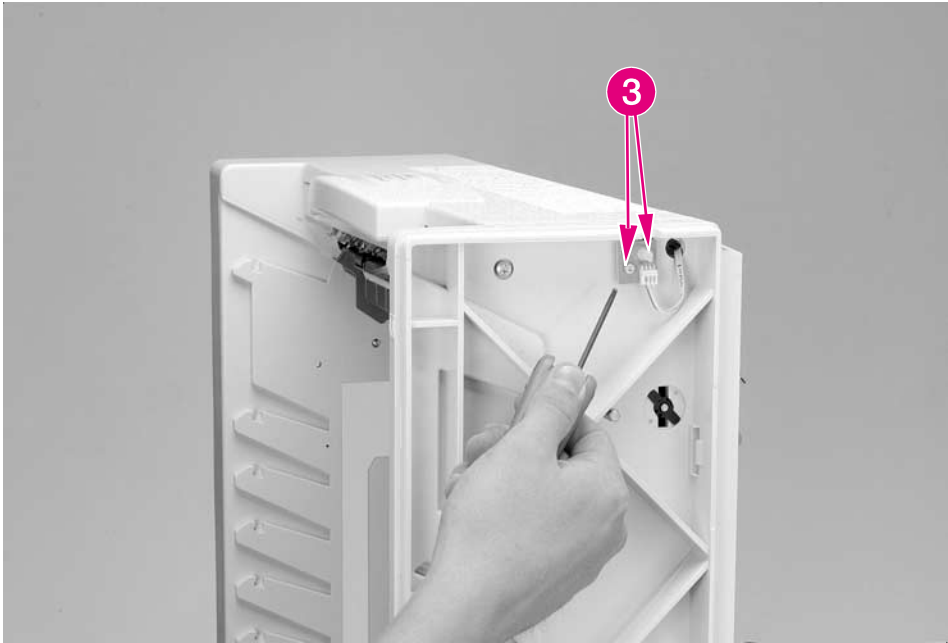

Figure 6-177 8-bin Mailbox User Status LED PCA (2 of 2)
- 3** Disconnect the cable from the User Status LED PCA (Figure 6-177, callout 2).